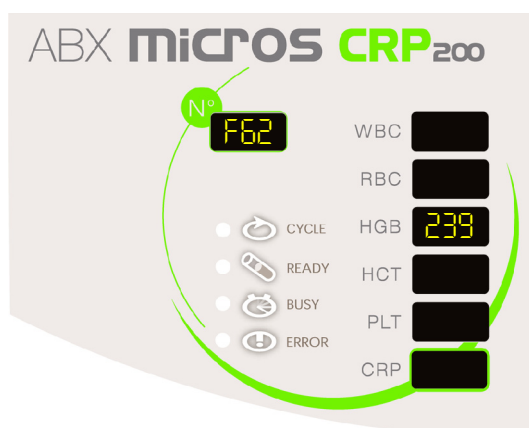

Fig.4: HGB display
- ◆ The current channel is displayed on HGB display (See "Fig.4: HGB display, page 8").